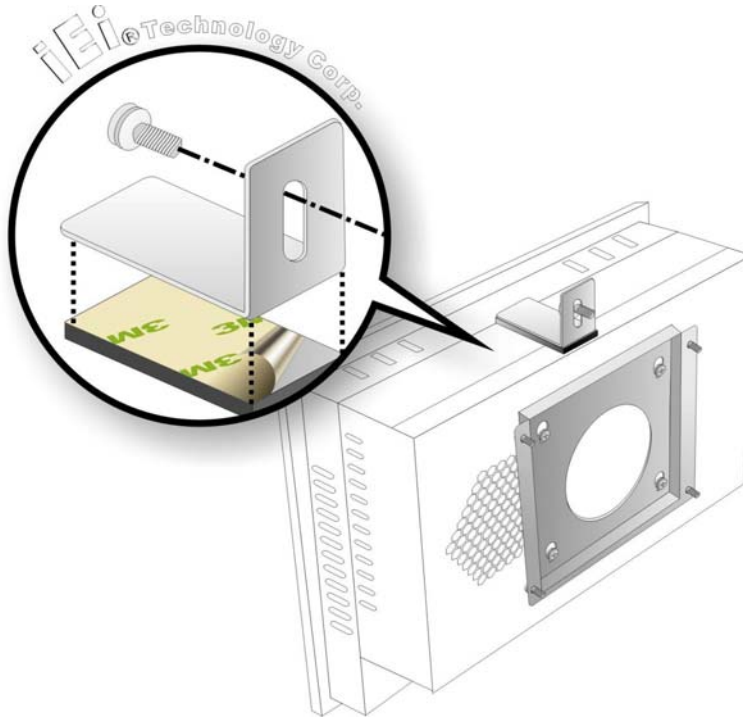

Figure 4-17: Secure the Chassis
Step 9: Secure the panel PC with the wall-mounting kit. To do this, stick the protective cushion to the wall-mounting kit first. Then, put the wall-mounting kit on the top panel of the panel PC. Carefully mark the location of the wall-mounting kit screw holes on the wall. Drill a pilot hole at the marked location on the wall. Secure the wall-mounting kit to the wall by inserting a retention screw into the pilot hole on the wall (**Figure 4-17**). This step is to avoid the panel PC being pushed apart from the wall-mounting bracket accidentally.